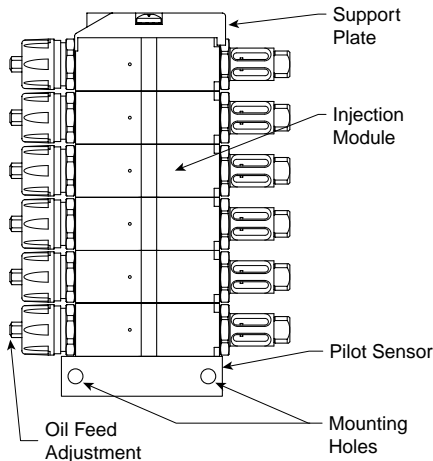
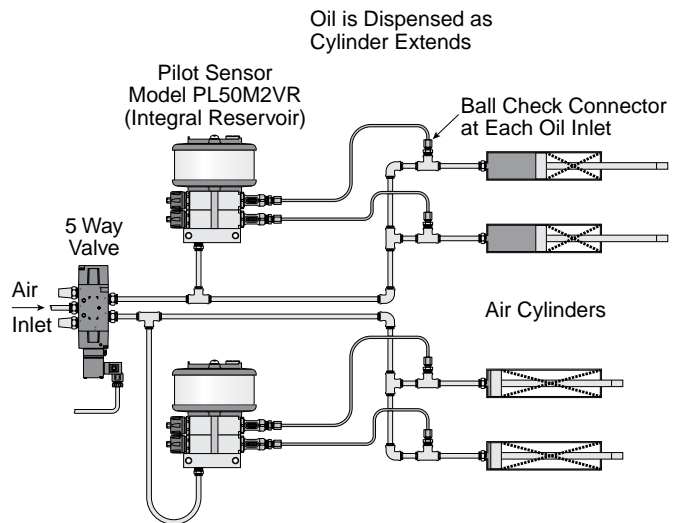
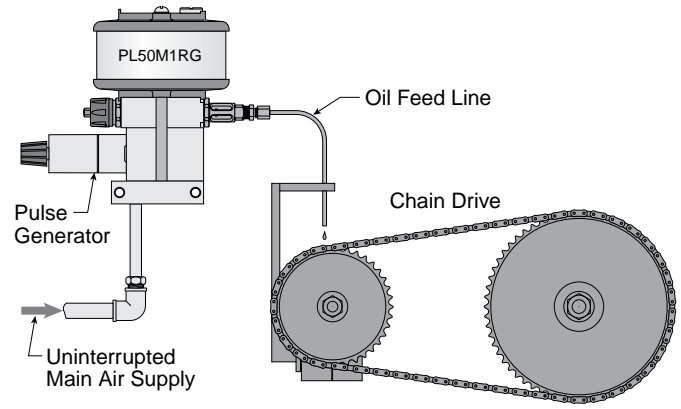

Figure 1
Figure 2
Figure 10
The PL50 Multi-Point Injection Lubricator is specifically designed to lubricate intermittently operated air rotary tools, cylinders and valves. If equipment operates continuously, the PL50 must be triggered by a separate signal such as from a timer and solenoid valve arrangement or Pulse Generator (see Fig. 10). Unlike conventional mist type lubricators, the PL50 delivers, via capillary tubes, small, precisely controlled amounts of lubricant right to the end lubrication points in the system every time the equipment is cycle (operated). The PL50 consists of a pressure plate (pilot), one to ten injector modules, support plate as described below, and oil reservoir (see Fig. 1).
The pressure plate is a pilot sensor (Fig. 1). The pilot sensor receives a pressure pulse (signal) from an external source and transmits it to all the injector modules in the stack. The pilot sensor is normally used on multiple spindle rotary air tools. As shown in Typical Installation (A), the pilot signal is tapped off at a point downstream of the control valve so that injector is fired during the "ON" cycle. Also, it is essential that the pilot signal be removed (vented to atmosphere through the tool) during the "OFF" cycle. The pilot sensor is also used on cylinder and valve circuits by taking the pilot signal from the downstream side of the valve. A separate three-way solenoid operated or air pilot operated valve may be used if it is not convenient or possible to obtain pilot signal directly from the operating circuit. If it is desirable to lubricate one group of point during one portion of the machine (circuit) operating cycle, and another group at a different time, two PL50's must be used. (see Fig. 2).
Normally the stack is installed in a vertical position primarily so that air bubbles in the oil will rise to the top. Mount PL50 rigidly to equipment or to separate support via two mounting holes in pilot sensor (see Fig. 1).